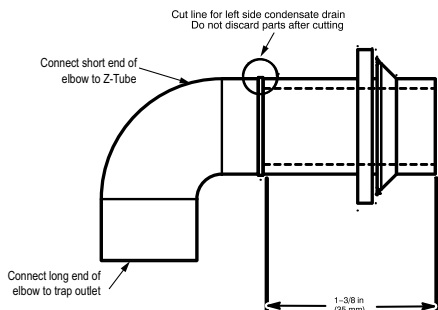

Fig. 17 – Modify Rubber Drain Elbow
3. The Z-pipe is connected to the condensate trap and the outside of the furnace by modifying the formed rubber drain elbow as shown in Fig. 17.
4. Remove the formed grommet from the rubber drain elbow by cutting the elbow along the vertical line located about 1-3/8 in. (35 mm) away from the formed grommet. See Fig. 17. **DO NOT DISCARD THE FORMED GROMMET OR THE RUBBER ELBOW.** Both of these pieces will be used.
TIP FROM CONTRACTORS: When installing the furnace horizontally, use the entire drain elbow (that is, do **NOT** cut as shown in Fig. 17 to connect the trap to the drain line. This helps to prevent bumps and shocks to the drain line from damaging the furnace drain trap. Avoid misalignment of the drain pipe which may cause kinks in the elbow.